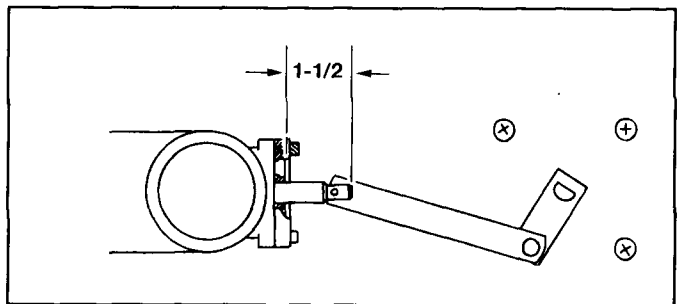

Figure 10 Fast Rinse Position
8. As in step 4, manually rotate the timer **COUNTERCLOCKWISE**, slowly, until the piston moves into the **FAST RINSE** position (Figure 10).